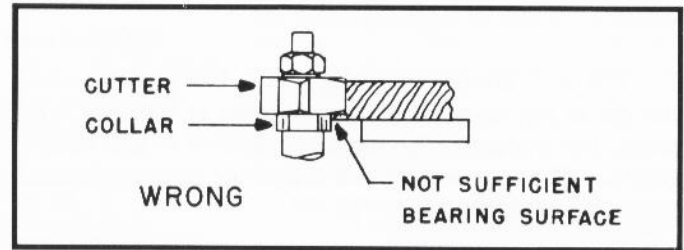
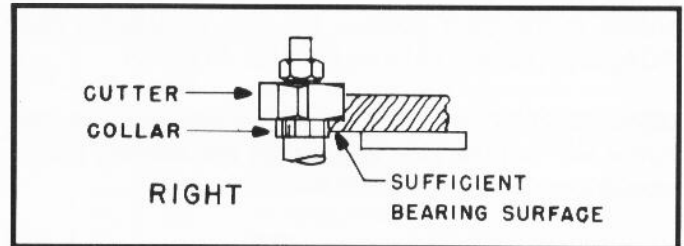

Fig. 30
Fig. 31
3. A portion of the edge of the work **MUST** remain untouched by the cutters in order that the collar will have sufficient bearing surface. Fig. 30 illustrates the **wrong way** for the operation while Fig. 31 illustrates the **right way**.